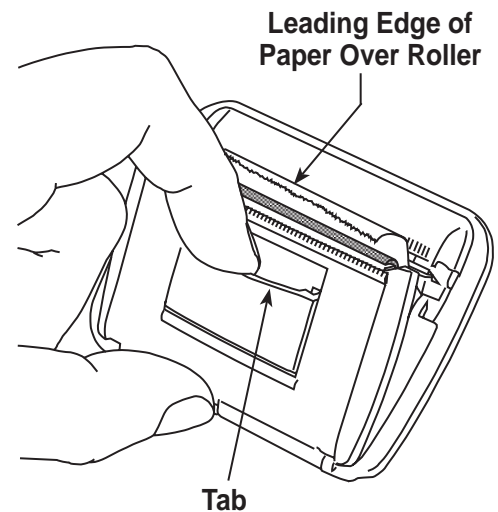

Figure 14
1. Remove the cover on the printer by pulling out on the tab as shown in Figure 14.
8. Place the printer into the cut-out area on the control panel. Press the face of the printer flush to the panel, oriented with the paper coming out at the top of the printer as shown in Figure 14.